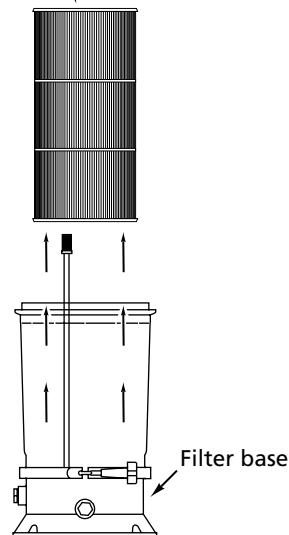

Figure 9
11. Lift element out of tank body (See Figure 9). Do not drop filter element. Place element in clean area where it can be hosed down.